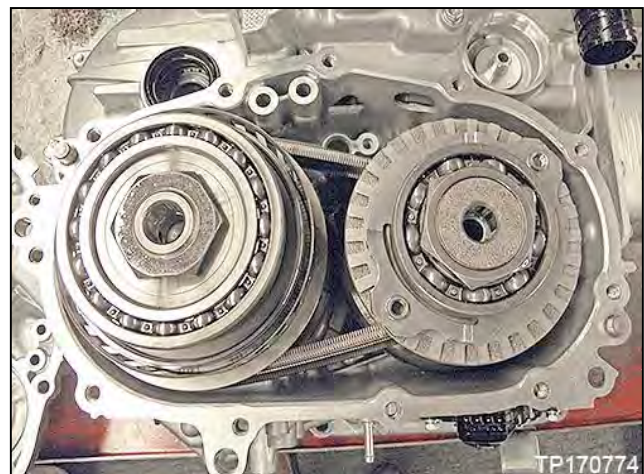

Figure 204
**HINT:** Figure 204 shown with side cover removed.